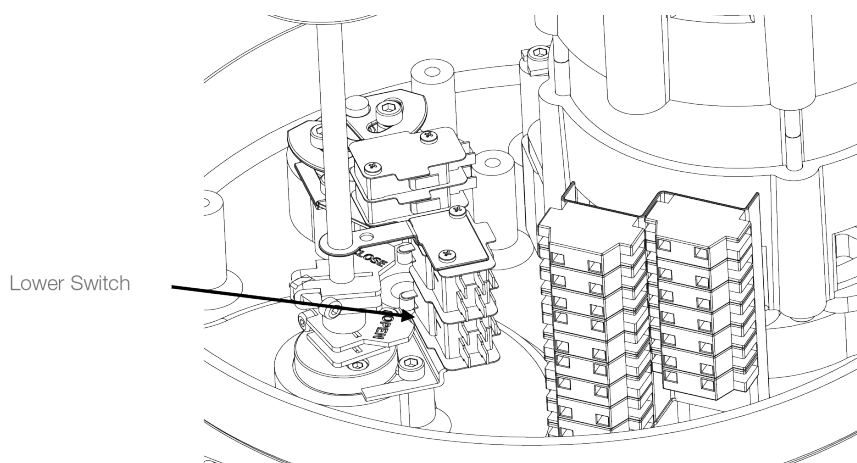

Figure 2: Open Cam Setting
- ☐ Rotate the OPEN cam towards CCW limit switch level until the switch 'clicks' (see Figure 2)